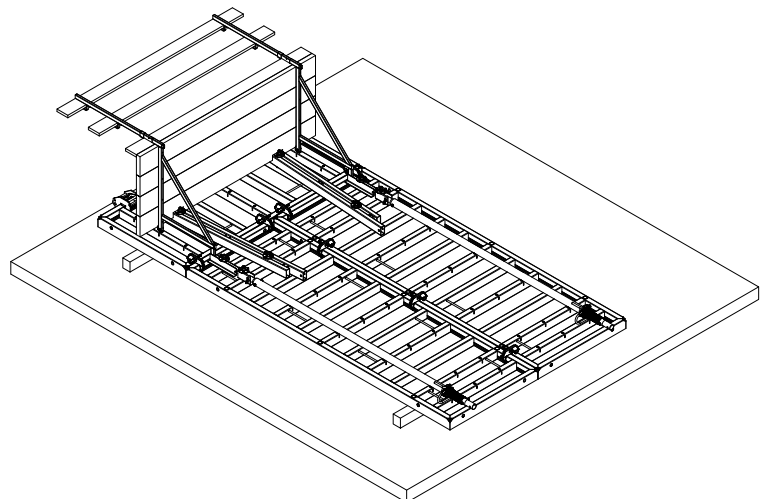

Fig. 53.3
**5.** Install the assembly locks, steel rails, bracing, and walkway brackets (Fig. 53.3).